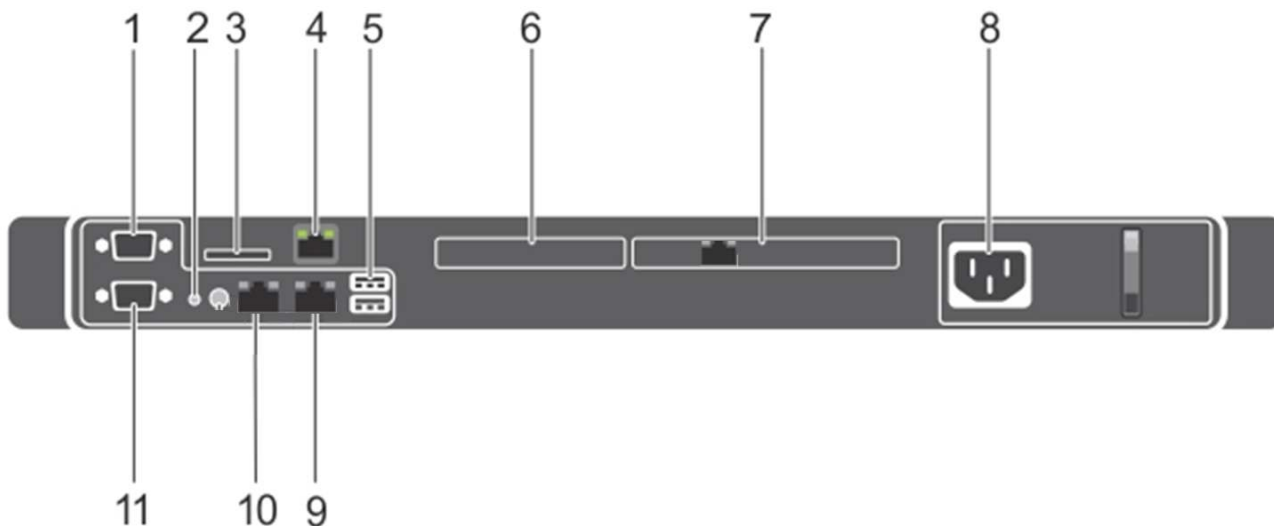

Figure 4.5: EIGER2 R 500K detector control unit as seen from the back. Numbered items relevant for operation of the detector system are described below.
EM1 (Embedded, figure 4.5 (10))	Interface Name: EM1 (1 GBase-T) User configurable GbE Network Interface Preconfiguration: DHCP
EM2 (Embedded, figure 4.5 (9))	Interface Name: EM2 (1 GBase-T) Fallback GbE Network Interface Preconfiguration: Static 10.42.41.10 (Netmask 255.255.255.0)
P2P1 (Slot 1, figure 4.5 (7))	10GBase-T Ethernet Detector Interface Port1
Power (figure 4.5 (8))	AC Connector